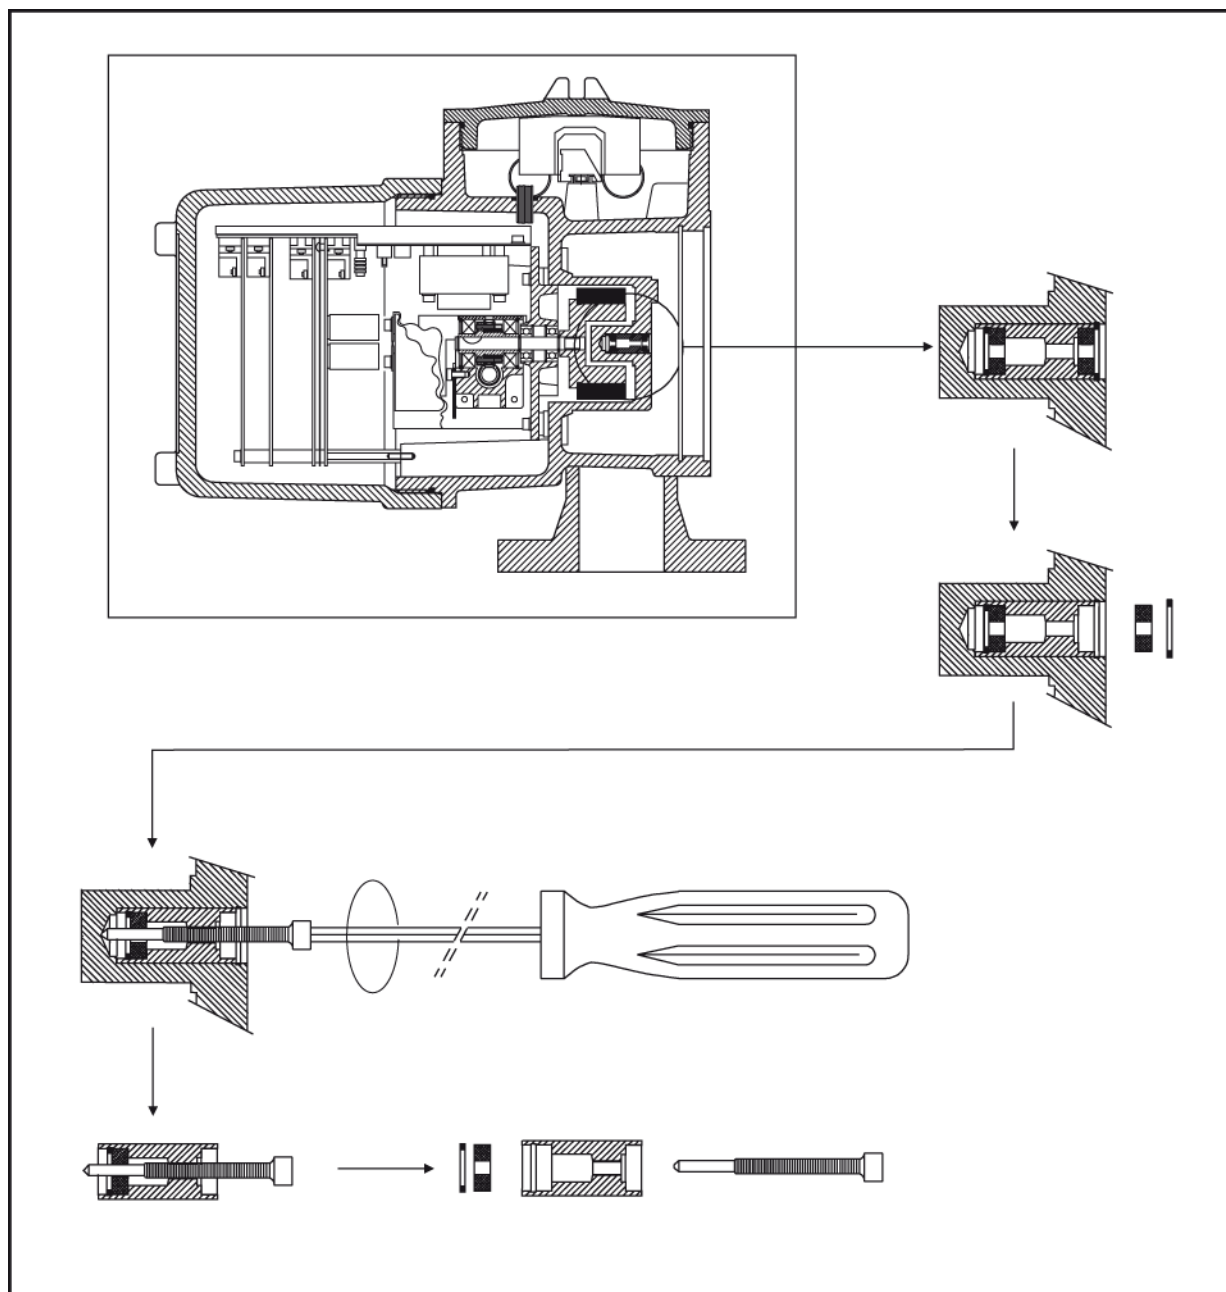

Figure 5.2 Replacing the drum shaft bearings
- Replace the bearings, refer to figure 5.2.